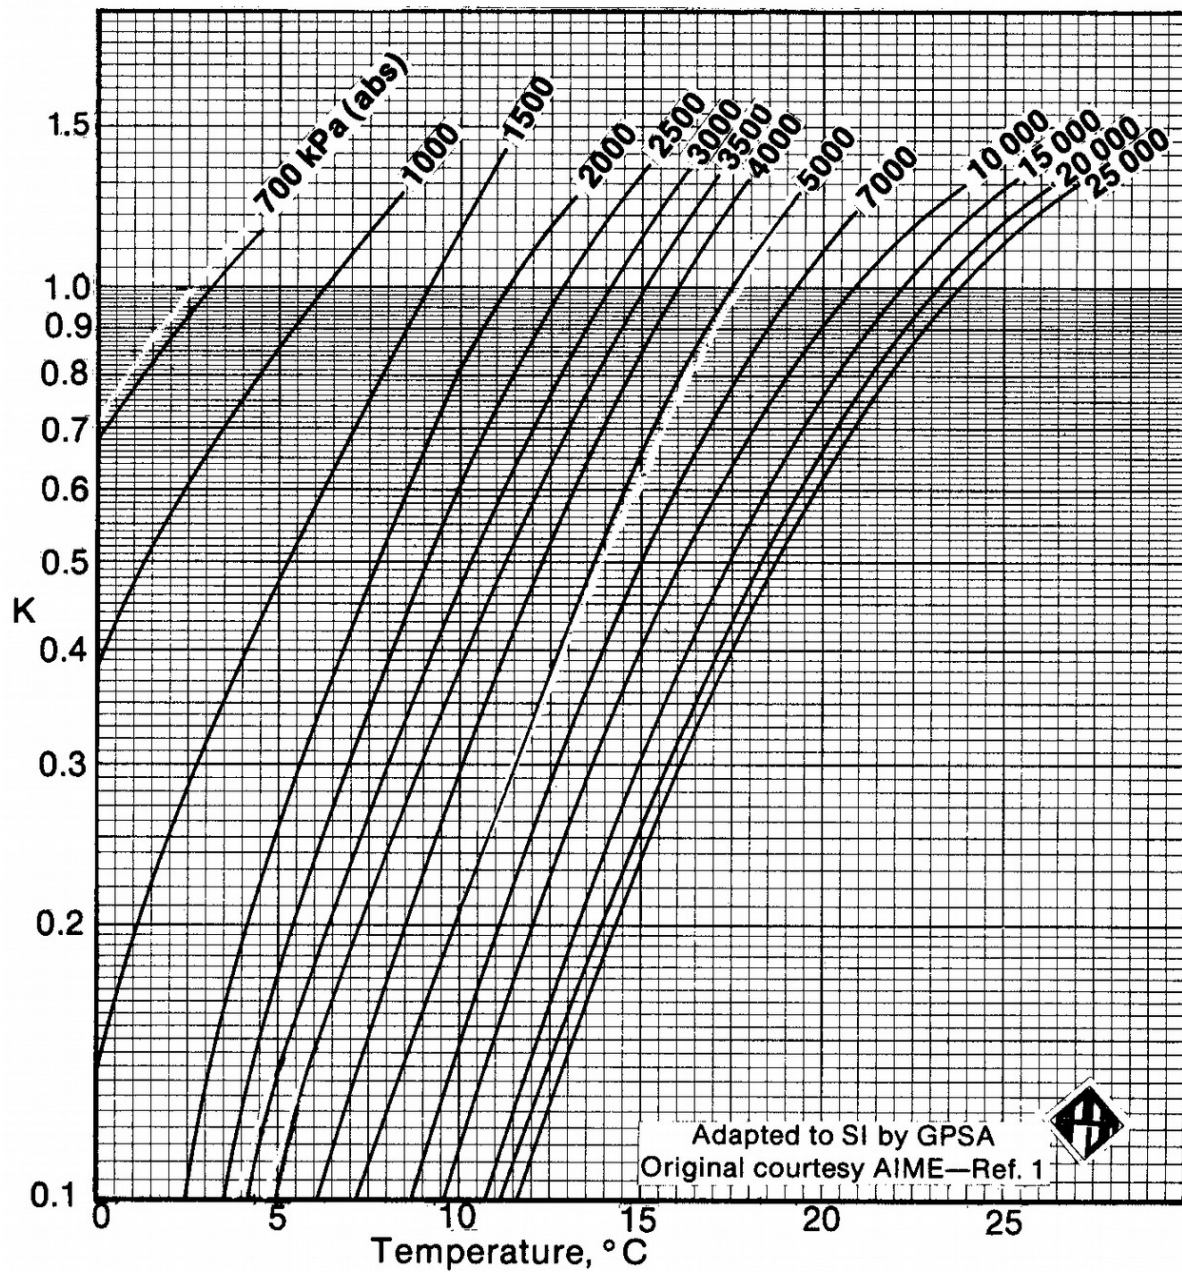

Figure 3: Hydrate K-value chart for ethane.
- b) Hydrate formation can be calculated using K charts, an example of which is given in Fig. 3.